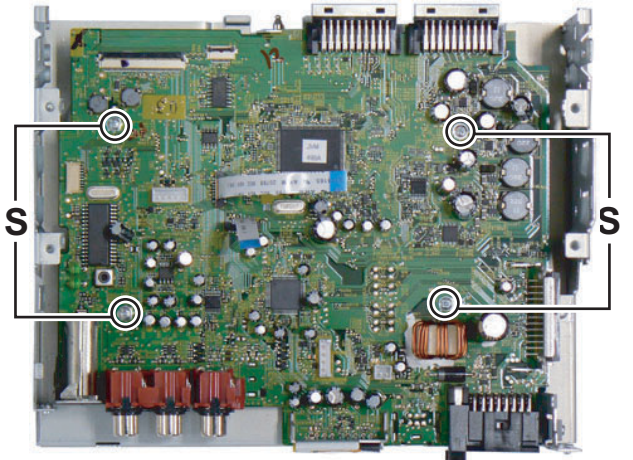

Fig.16
3.1.9 Removing the Main board (See Fig.16)